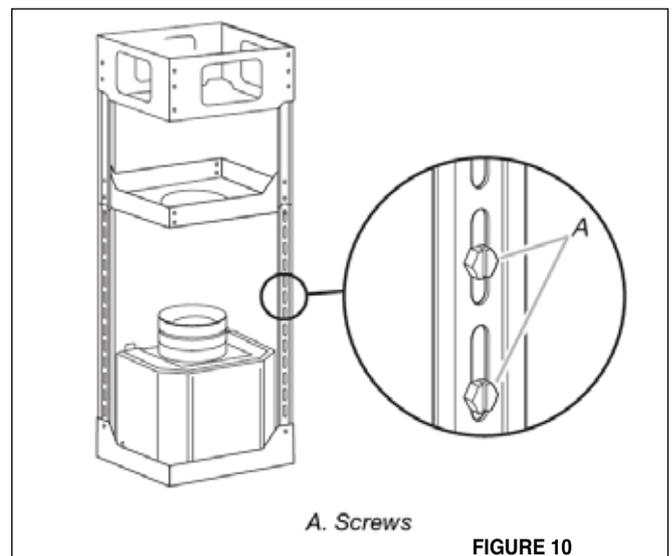

FIGURE 10
13. Determine the desired length of the support structure and adjust the length of the support by removing the four screws (indicated in FIGURE 10) with a flat head screwdriver. Once the length of the support is determined, install and tighten the four screws.